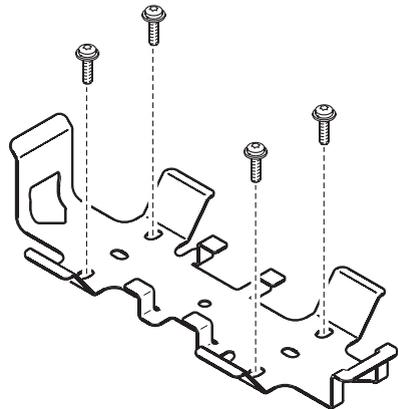

Figure 2: Fastening screws
3. See Figure 2. Fasten the bracket securely to the mounting surface as shown using four M5 screws or bolts